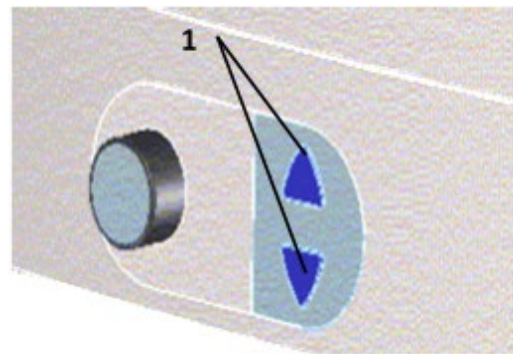

Fig 6
- The specimen clamping can be moved 40 mm vertically up or downwards via the two coarse feed buttons Fig 6 (1).